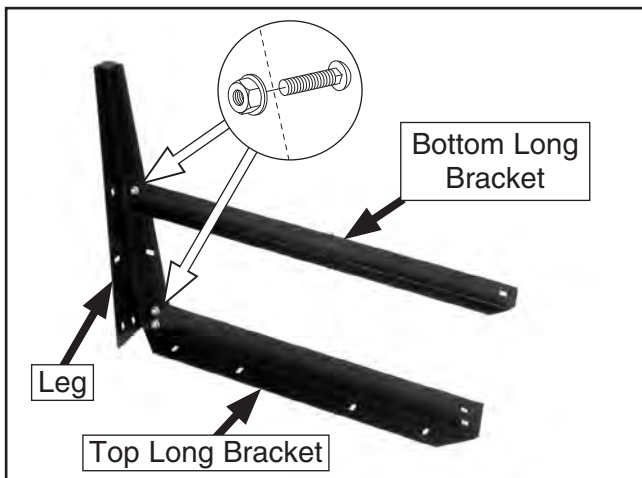

Figure 4. Top and bottom long brackets secured to a stand leg.
2. Mount a top long bracket to a stand leg and secure by hand with (2) M8-1.25 x 15 carriage bolts and (2) M8-1.25 flange nuts, as shown in **Figure 4**.
3. Mount a bottom long bracket to stand leg and secure by hand with (1) M8-1.25 x 15 carriage bolt and (1) M8-1.25 flange nut, as shown in **Figure 4**.